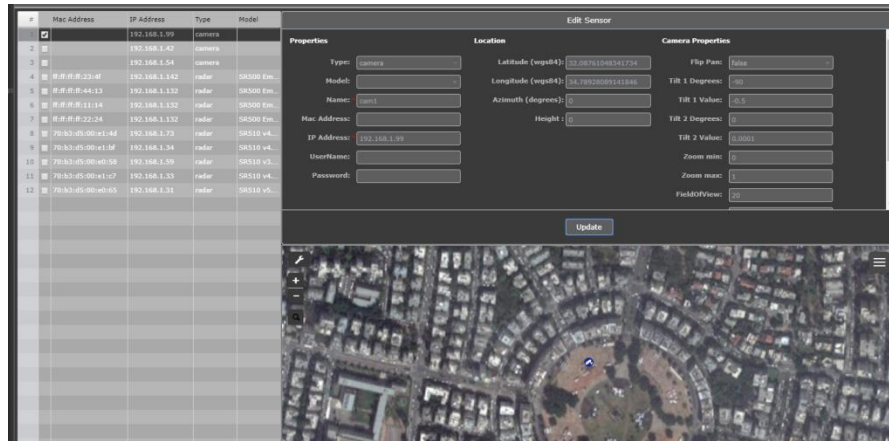

Figure 15: Scanning from a list of existing sensors
- Auto scan sensors - Select the relevant sensor from a list of all existing sensors (see Figure 15: Scanning from a list of existing sensors)